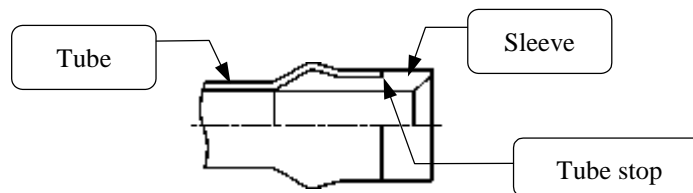

Figure 5
- Stop inserting the sleeve into the tube when the tube reaches the tube stop of the sleeve. (Figure 5)